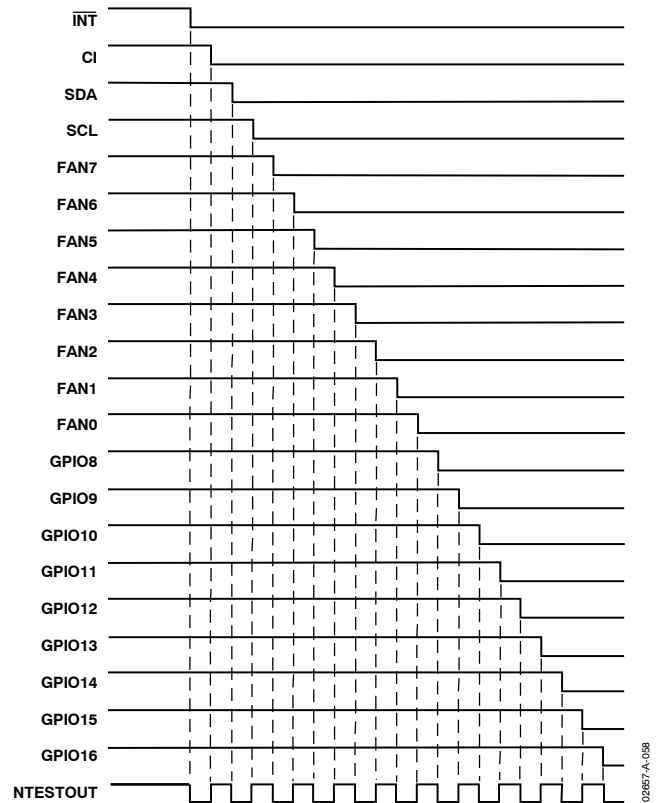

Figure 58. NAND Tree Test Taking Inputs Low in Turn
2. Start with all inputs high and take them low in turn, starting with the input furthest from  $\overline{\text{NTEST\_OUT}}$  ( $\overline{\text{INT}}$ ) and working down the tree to the input nearest to  $\overline{\text{NTEST\_OUT}}$  (GPIO16/ $\overline{\text{THERM}}$ ). This should give a similar output pattern to Figure 58.